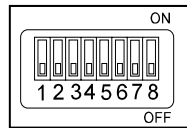

Figure 3. DIP Switches
1. Ensure that all DIP switches are in the **OFF** position, as shown in Figure 3. The DIP switches are on the underside of the keyboard.